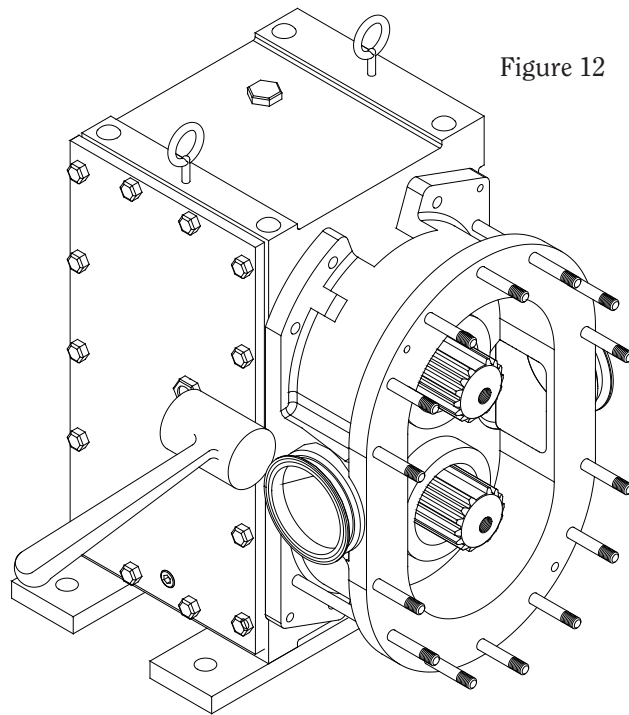

Figure 12
- b) Now carefully pull the pump housing away from the gearbox as shown in Figure 12. You may need to alternately tap on the sides of the pump housing near the inlet and outlet ports with the soft face hammer until the housing pins separate from the gearbox.